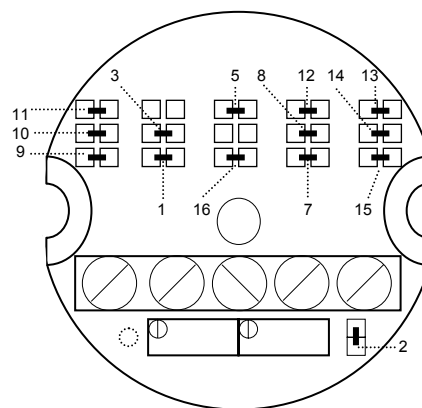

Fig. 6
The INPUT and RANGE of the 405000 transmitter can be reconfigured by opening or soldering internal jumpers (Fig. 6). J-type thermocouples (Fe-Const) have 4 ranges, K-type thermocouples (NiCr-NiAl) have 3 ranges, and Pt 100 RTDs have 40 ranges. See Table of ranges in next section.
- 3) Select RTD or Thermocouple via Jumper No. 2 (Fig. 6), located between the terminals. For RTD (Pt 100) inputs, open Jumper No.2 and for Thermocouple (T/C) inputs close Jumper No.2
- 4) For specific range configurations and Jumper locations, refer to the Table in the next section noting which jumpers are to be opened or soldered. A black dot indicates that that jumper must be soldered (refer to Fig. 6 below for Jumper locations).